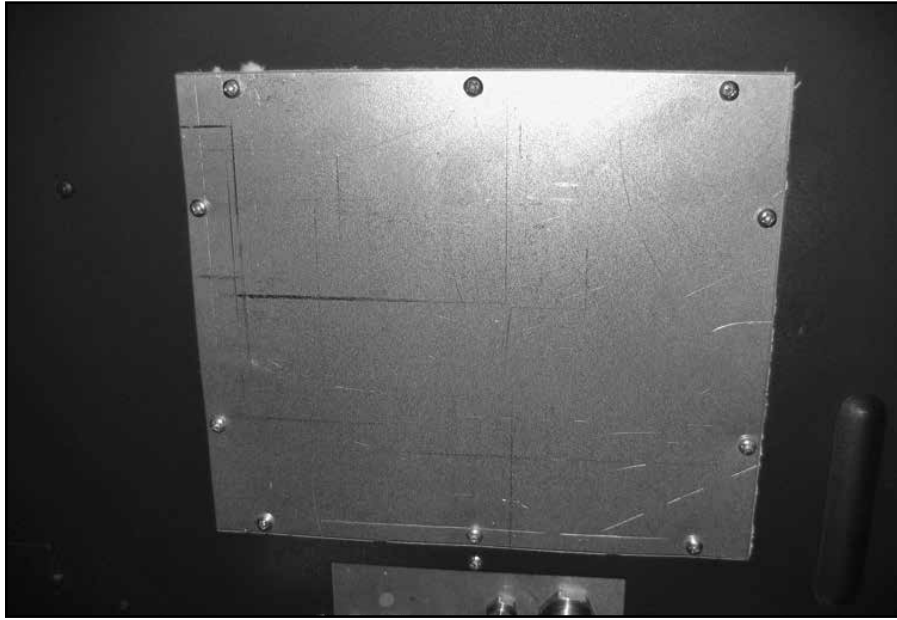

Figure 2: Access cover to valve control center.
1. Remove the 10 screws securing the access cover for the valve control center (Figure 2).